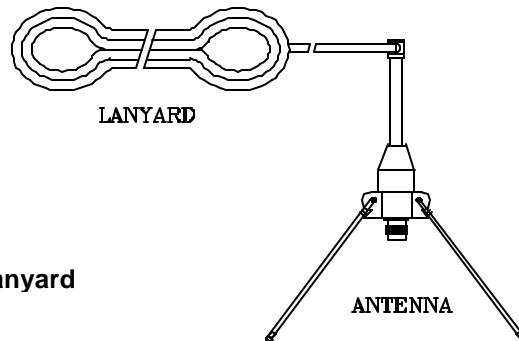

Figure 2 – Attaching Lanyard
1. Tie lanyard to hole in antenna bezel (See Figure 2: Attaching Lanyard).